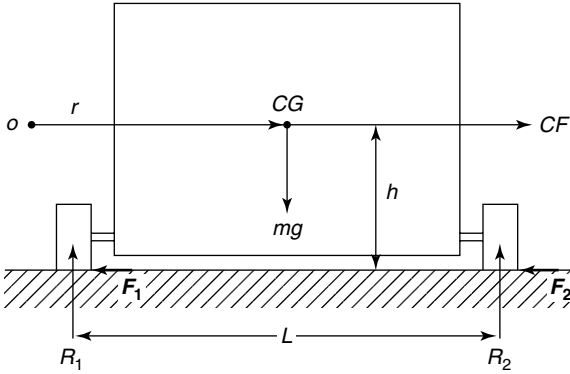

Figure 16.2
If a motorcar travels around a bend, its tyres will have to exert centripetal forces to achieve this. This is achieved by the transverse frictional forces acting on the tyres, as shown in Figure 16.2.
In Figure 16.2, the following notation is used:
**Problem 1.** Determine expressions for the frictional forces  $F_1$  and  $F_2$  of Figure 16.2. Hence determine the thrust on each tyre.